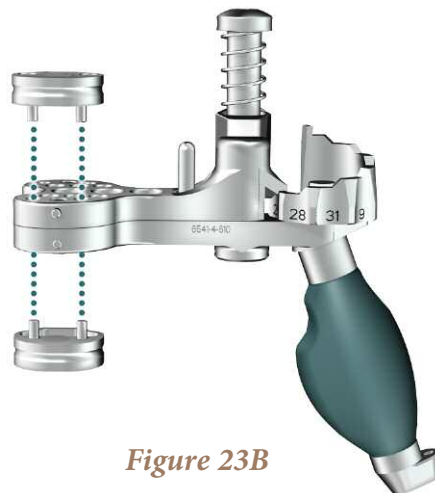

Figure 23B
- ▶ Put the knee into Extension (0 degrees). If distal femoral and/or tibial augmentation has been prepared for, assemble the appropriate thickness of Spacer Block Augments to the appropriate sides of the upper and/or lower paddle of the Adjustable Spacer Block. (Figure 23B)
- ▶ The numbers on the thumbwheel correspond to the implant insert thickness. Lift the Upper Paddle Grip to free the adjustment wheel. Align the notch with the appropriate thickness (Figure 23B) and assess the gap space until the appropriate insert thickness is established. Read the measurement off of the knob to determine the tibial insert thickness. Remove the adjustable spacer block from the joint space.